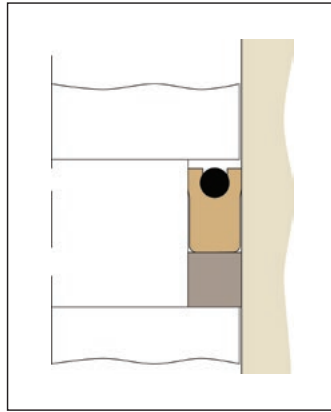

Figure 10-1. Modular Back-up Ring
**Modular back-up rings** disperse pressure from the seal throughout the gland to fill the extrusion gap and protect the seal (see Figure 10-1).